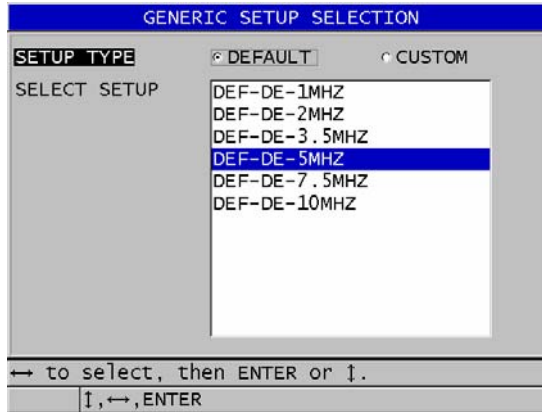

Figure 12-1 The GENERIC SETUP SELECTION screen
2. In the **GENERIC SETUP SELECTION** screen that appears (see Figure 12-1 on page 213):